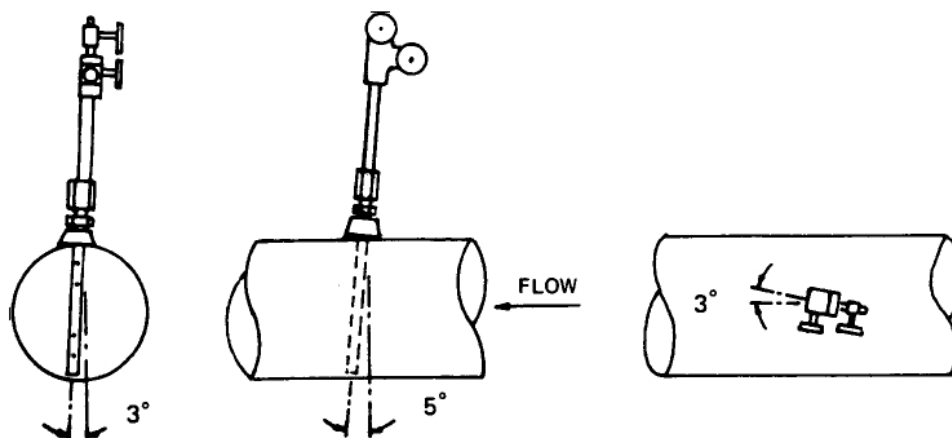

FIGURE 4.1 ACCUTUBE PROBE POSITIONING
- 4.1.5 Thread the packing gland fitting in place (compression type), and insert the probe into the pipe. Observe the position of the probe assuring that it is perpendicular within the tolerance shown in Figure 4.1. If adjustments are required, remove the probe and packing, and thread a pipe into the threaded fitting a few feet long. With the leverage of the pipe force the threaded fitting into the proper position.
- 4.3.7 Properly position the probe so that the High-pressure connection (side connection) is pointing upstream within the tolerances as shown in Figure 4.1.
- 4.4.4 Place the gasket on top of the weld neck flange and insert the Accutube to verify alignment of the probe and clearance. Alignment of the probe must be within the limits shown in Figure 4.1. The probe tip should clear the inside wall of the pipe by 1/16" on 12" and smaller line sizes, and 1/8" on larger line sizes (this clearance will occur within the support plug on Series 25D (see 4.4.5). Adjust the position of the Weld -O-Let and weld neck flange, if necessary, to provide proper orientation of the probe to the pipe. Align the probe flange boltholes with those on the weld neck flange and verify that the flow direction arrow stamped on the probe flange points in the proper direction.
- 4.5.26 Verify the alignment of the probe head with respect to the pipe line. The side pressure port should point directly upstream. Refer to Figure 4.1